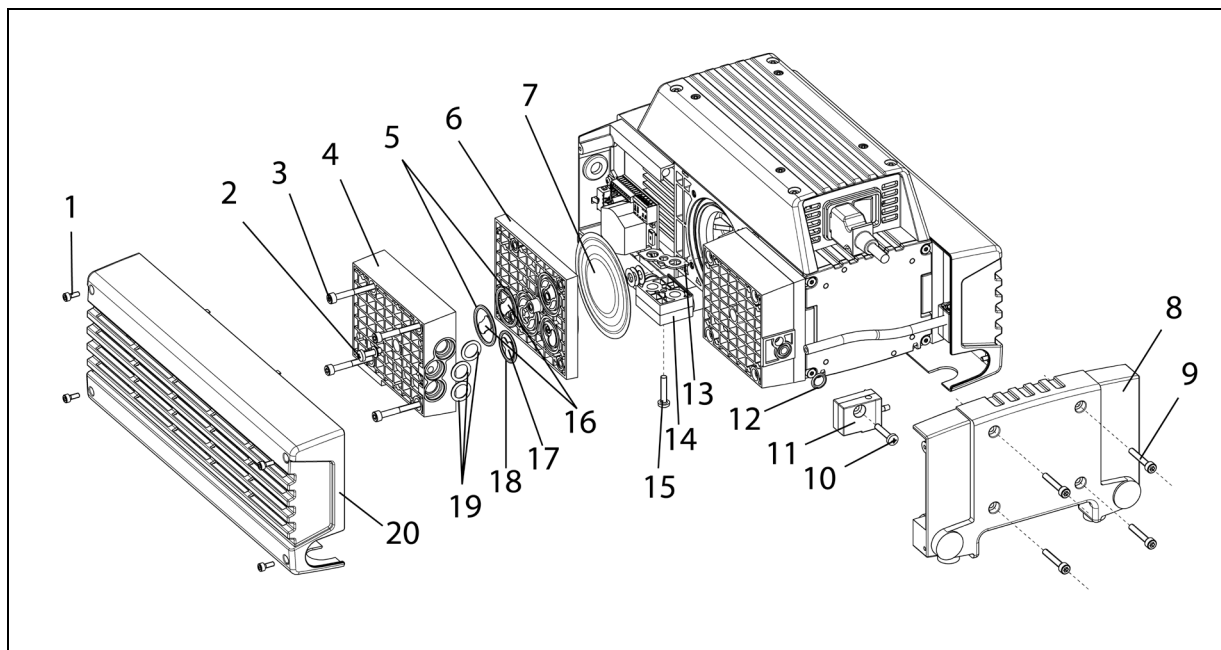
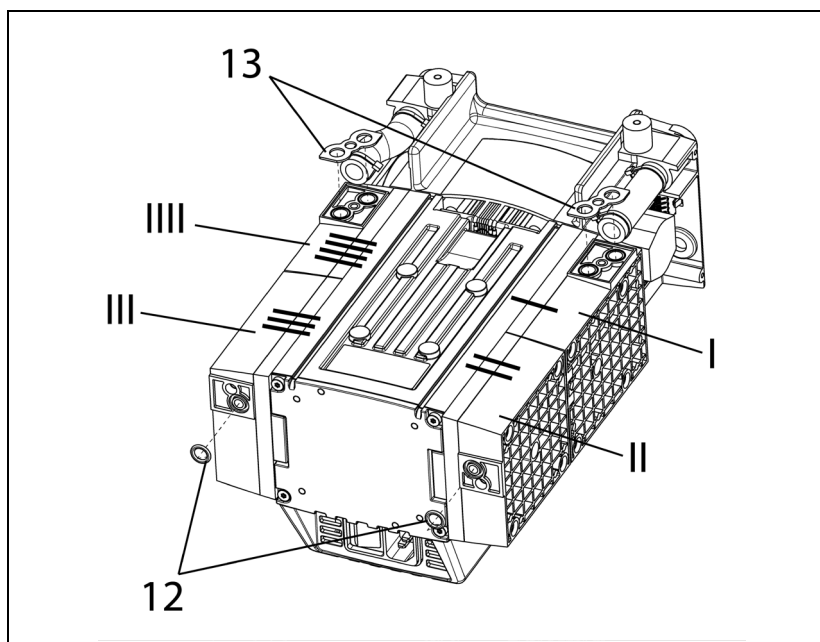

Fig. 12: Exploded drawing N 950.50 KNE-W
Fig. 14: Marking the pump
1. Undo the eight screws (Fig. 12/1) and remove the head covers (20).
4. Remove O-rings (Fig. 14/12).
5. Remove the head connection's (14) screws (15) and remove the head connection.
6. Remove flat seals (Fig. 14/13).
7. Head 1 (Fig. 14/I):
8. Head 2 (Fig. 14/II):
9. Head 3 (Fig. 14/III):
10. Head 4 (Fig. 14/IV):
11. Undo the 8 attachments screws (Fig. 12/3) on the heads (**1** and **2**) and remove the heads (**1** and **2**).
13. On both heads, undo the head screw (Fig. 12/2) in the head plate (4) and remove head plate from the intermediate plate (6).
1. Remove from the intermediate plates (Fig. 12/6) the valve plates (16) and (17) and the O-rings (5) and (18).
2. Insert the new valve plates (Fig. 12/16) and (17) and the new O-rings (5) and (18) into the intermediate plates (6).
3. Place head plate (Fig. 12/4) onto the intermediate plates (6), observing the felt-tip pen marks (Fig. 14/M).
4. With your hands, carefully and lightly tighten the head plate's head screw (Fig. 12/2) on both heads (tightening torque: 60 Ncm).
6. Press together heads 1 and 2 (Fig. 14/I and II).
3. Place heads 1 and 2 onto the compressor housing; alternately tighten attachment screws (Fig. 12/3) to hand-tightness (tightening torque: 3.5 Nm).
4. Repeat steps 11-13 (Removing pump head), steps 1-6 (Replacing the valve plates and install intermediate plates) and steps 1-3 (Replacing the diaphragms and install pump head) for heads 3 and 4 (Fig. 14/III and IIII).
1. Insert flat seals (Fig. 14/13) into the head connection receiver.
3. Insert O-rings (Fig. 14/12) into the head connection receiver.
6. Reinstall the head covers (Fig. 12/20):